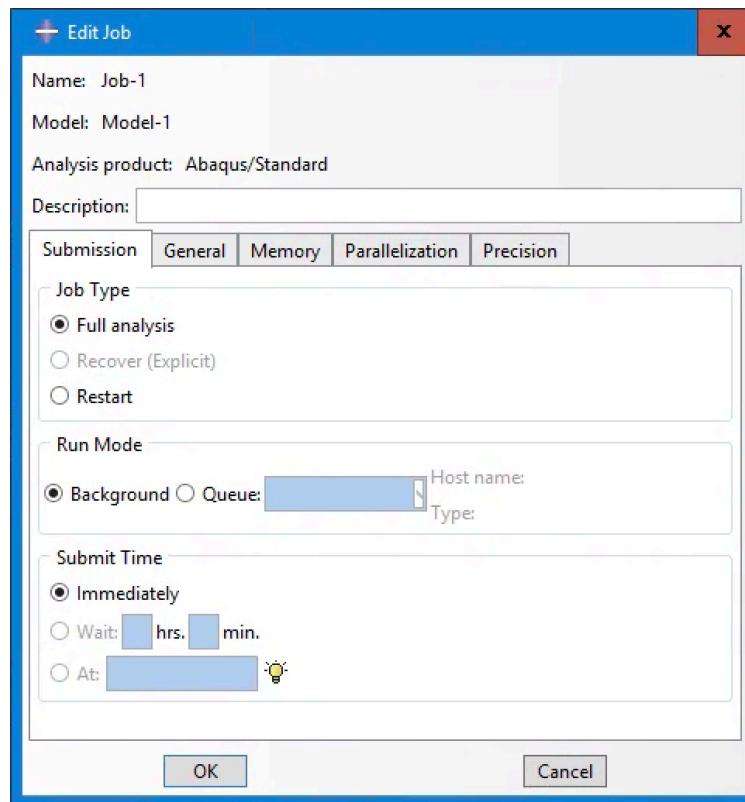

Figure 34 Edit Job dialog box
- The **Edit Job** dialog box provides many settings regarding the analysis, such as memory, parallelization, and precision settings (Figure 34). For this example there is no specific settings. You can also add some description about the analysis.